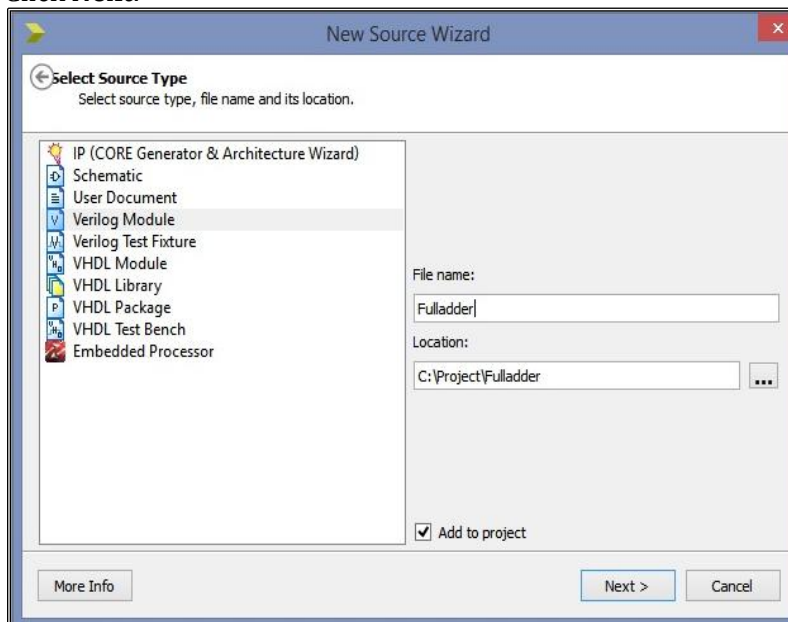

Fig 3.4: New Source
5. Now in the ISE Project Navigator Environment, select Project => **New Source**. Select **Verilog Module** as the **Source Type** and enter a name “Fulladder” for the new source in the **File Name** field (Fig 3.4). Click **Next**.